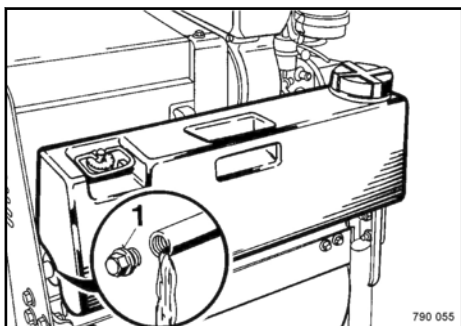

Fig. 82
Empty the water tank, remove the plastic plug (1) ↪ Fig. 82 for this purpose.